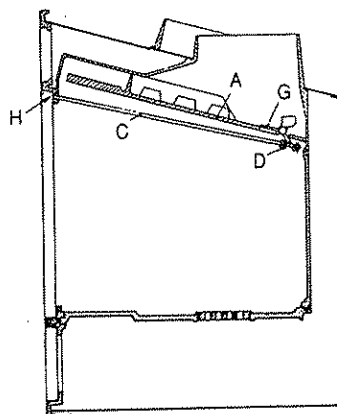
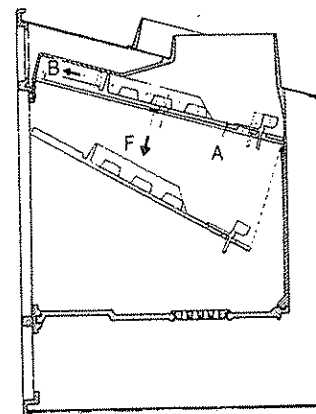

Fig. 1
Fig. 2
Dismounting and cleaning the baffle plate (see Fig. 1, Fig. 2).
2.^o Side the baffle plate "A" forwards (direction "B") until the side-locking pivots coincide with the corresponding slots, causing the plate to fall (direction "B₁") (Fig. 2).